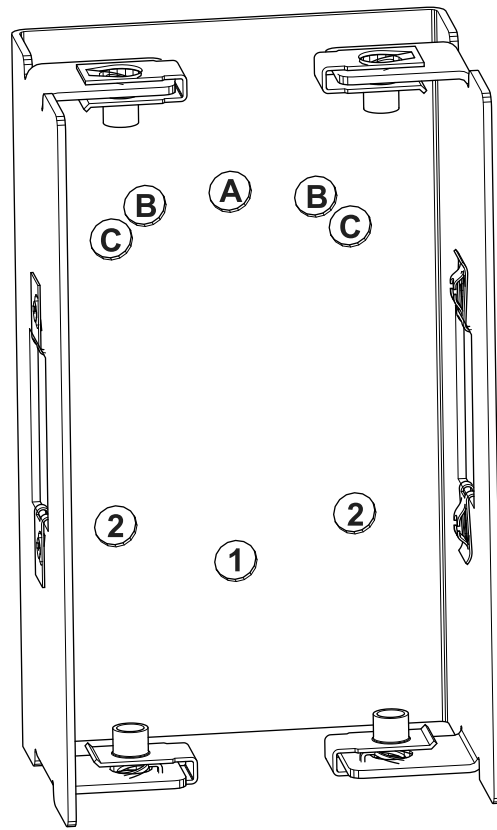

Figure 3
- 3. Determine which holes to use for installing the mounting bracket to the light bracket. Refer to the table below and Figure 3.
Note: There are 2 positions for B and 2 in Figure 3. The correct holes are determined if you are installing the lights on the left or right side of the ROPS. Ensure the lights point straight back.
| Hole Positions to Use (Figure 3) | Machine |